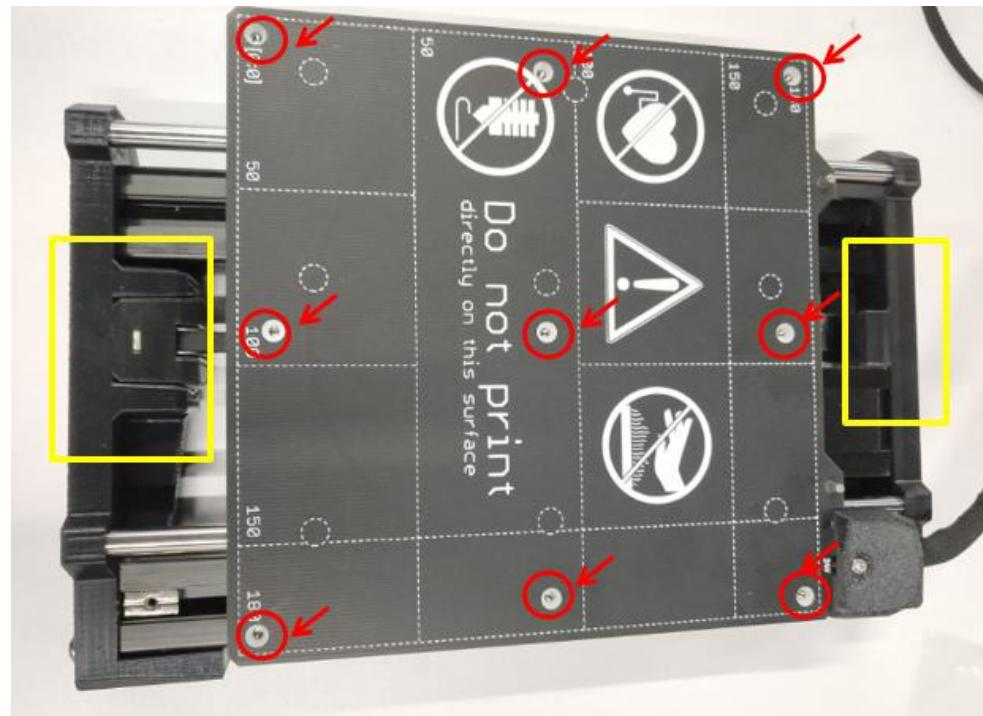

Figure 1.12.2
**Step 1-12-2:** As shown in Figure 1.12.2, install the hot bed onto the hot bed platform support plate (note the installation direction of the hot bed), and tighten it with 9pcs M3×2 inner flat-angle screws.